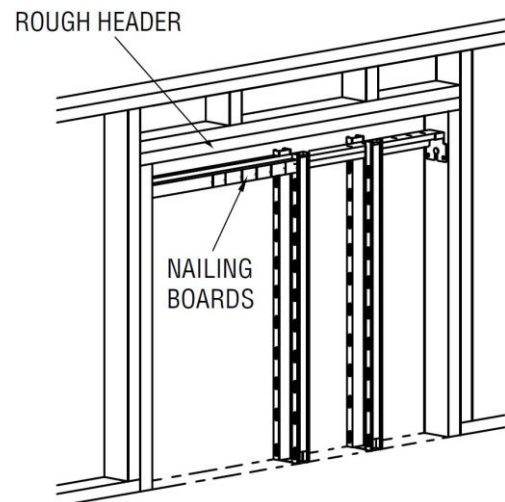

Figure 8
- Nail the other pair of split studs to the header, midway between the first pair of split studs and the rough stud closest to the pocket side, as seen in Figure 8